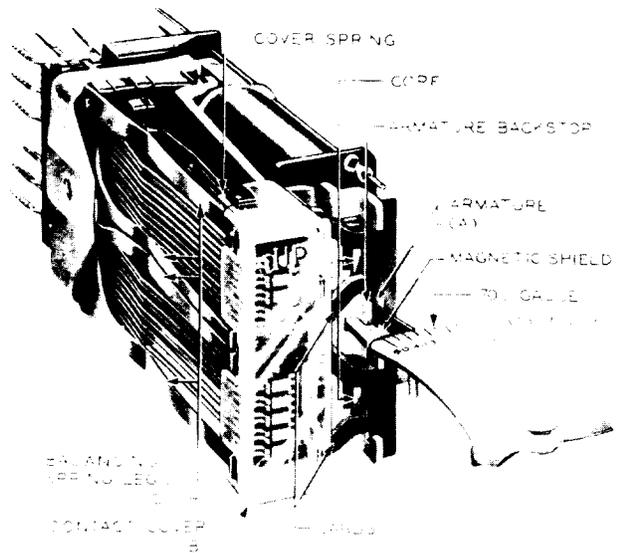
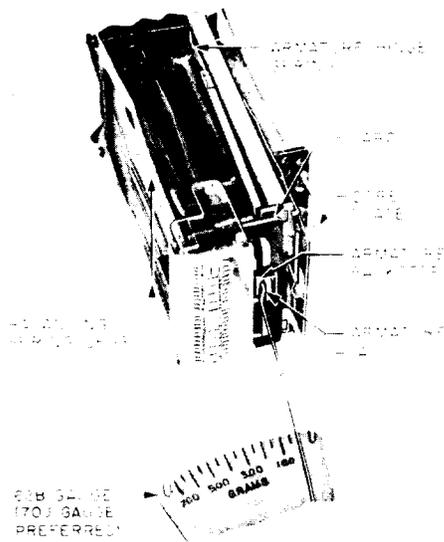

Fig. 2—AM Type Relay-Gauging Armature Back Tension
Fig. 4—Method of Checking Armature Back Tension for AL Type Relay
- 2.06 Balancing Spring Tension:** Fig. 2(C) and 3(B)—With the relay in the unoperated position, the combined tension of the balancing spring legs shall be sufficient to hold the card against the associated surfaces on the armature and the armature against its backstop. (See requirement 2.07.)
- 2.07 Armature Back Tension:** Fig. 2(A) and 4(A)—The armature shall bear against its backstop with a pressure of:
Use the 62B or 70J gauge as follows. On AL-type relays, apply the gauge to the tip of the armature as shown in Fig. 4(A). On AM-type relays, apply the gauge to the armature in front of the armature backstop as shown in Fig. 2(A), making sure that the gauge clears the backstop and magnetic shield.